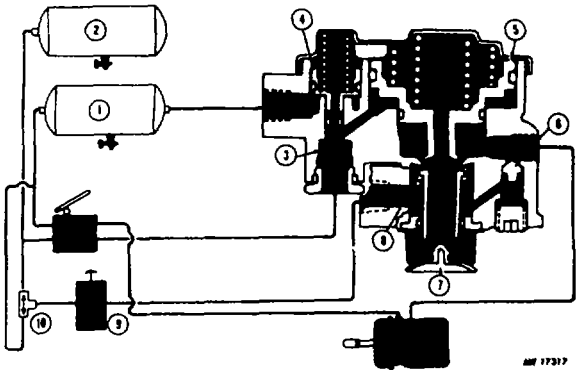

Fig. 7 Brake Application, Loss of Air In Primary System
**Brake Application with Loss of Air In Primary System (Fig. 7)**